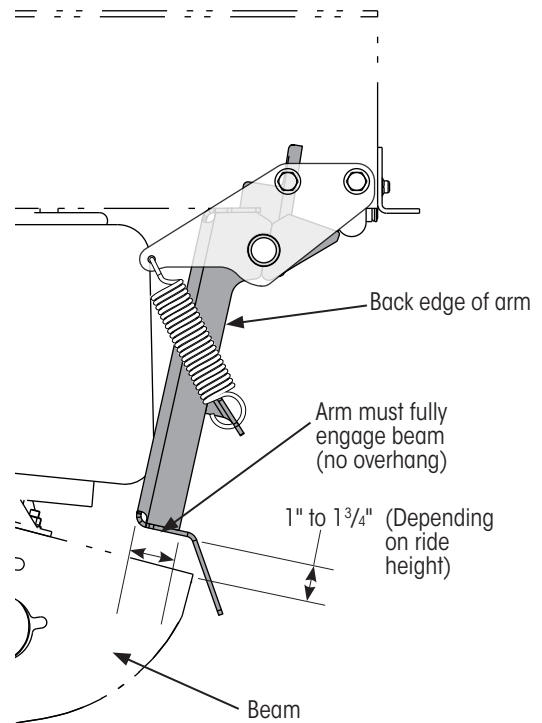

Figure 38: Checking arm-to-beam clearances
14. With the suspension at the designed ride height, measure the distance from the top of the beam to the bottom of the arm (Figure 38). An acceptable measurement range is 1" to 1 3/4".
15. Check the arm position relative to the beam (Figure 38). The arm must have full engagement with the beam. In other words, the back edge of the arm must be entirely positioned over the top surface of the beam (ignore the beam side surfaces when checking arm position).